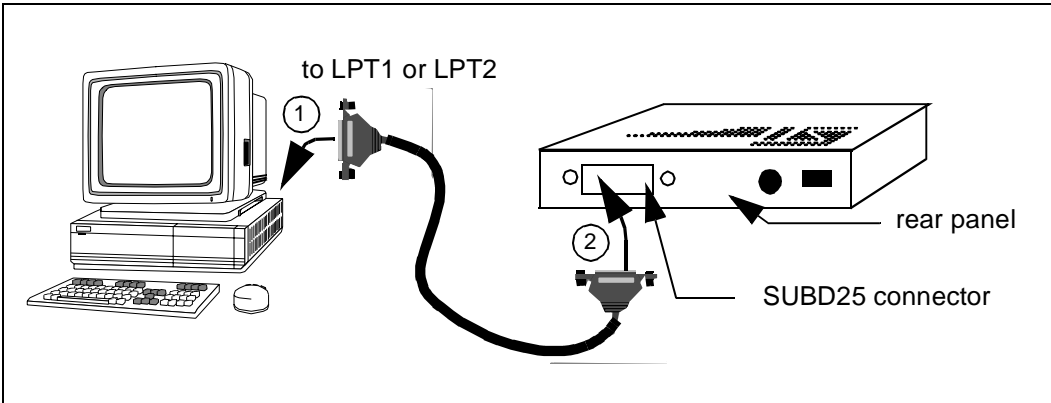

Figure 4: Connecting the emulator to the PC
- 2 Connect one end of the parallel cable to the emulator's rear panel 25-pin SUB-D connector and the other end to one of the PC's parallel ports (LPT1 to LPT2)—refer to *Figure 4*.